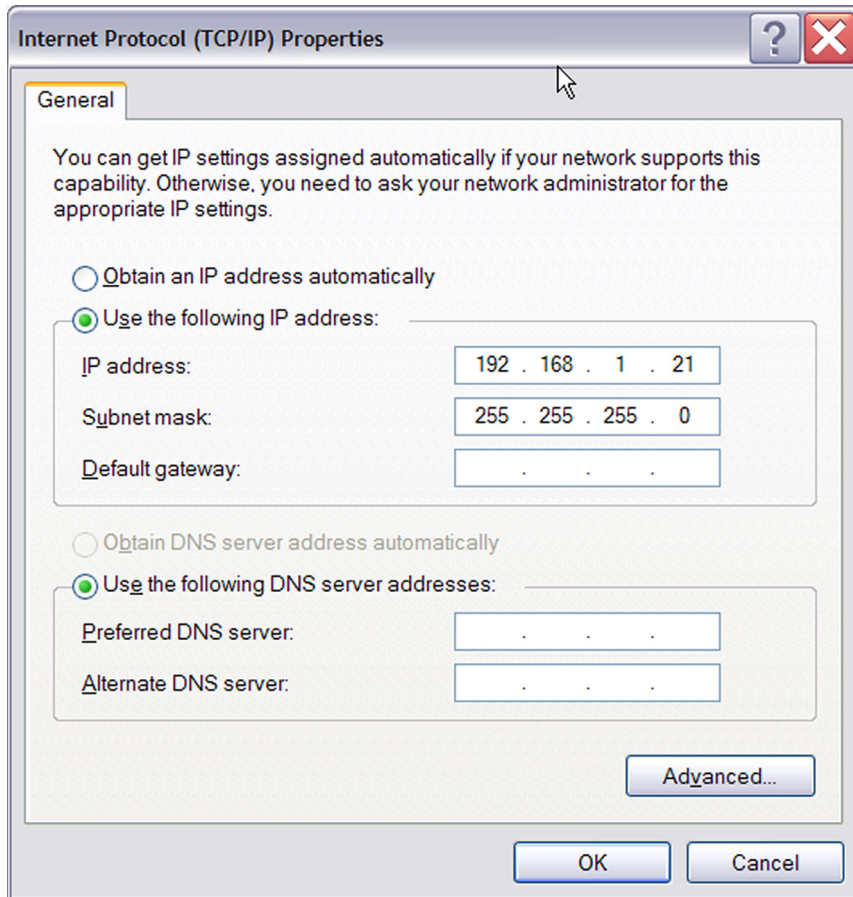

Figure 5. Internet Protocol Properties Dialog
4. Select **Internet Protocol (TCP/IP)** from the scroll down list, and click **Properties** button. The **Internet Protocol (TCP/IP) Properties** dialog box appears, see Figure 5.